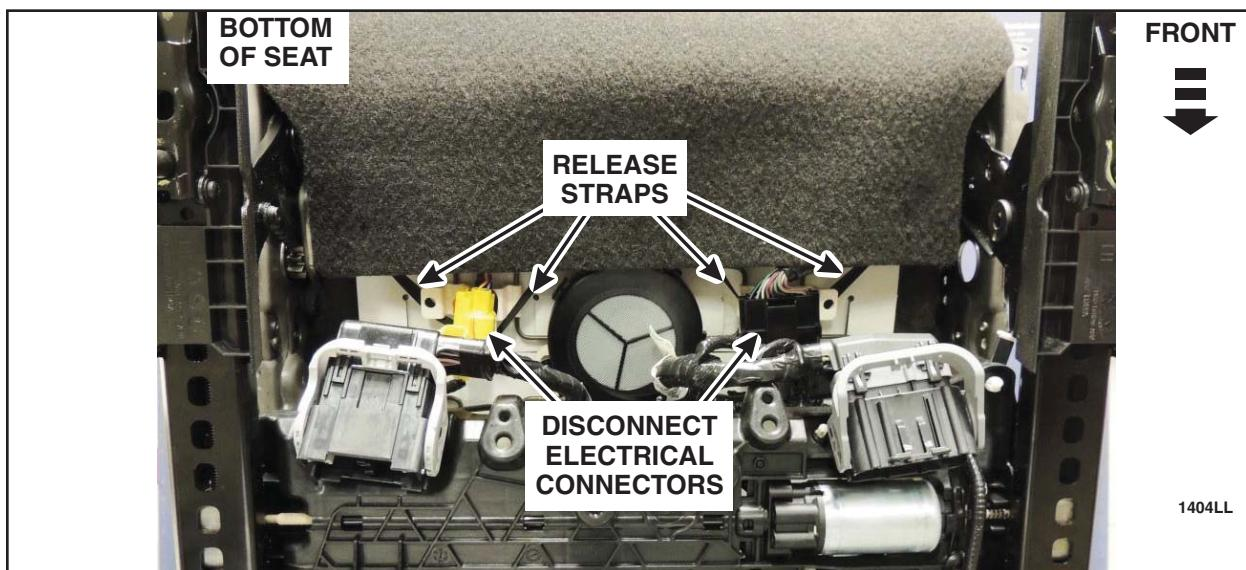

FIGURE 1
16. Zip up the non-air bag side backrest cover zipper. See Figure 1.
4. Disconnect both electrical connectors from under the seat assembly and release the harness pin-type retainers from the connectors. Release the backrest cover straps from the seat bottom. See Figure 1.